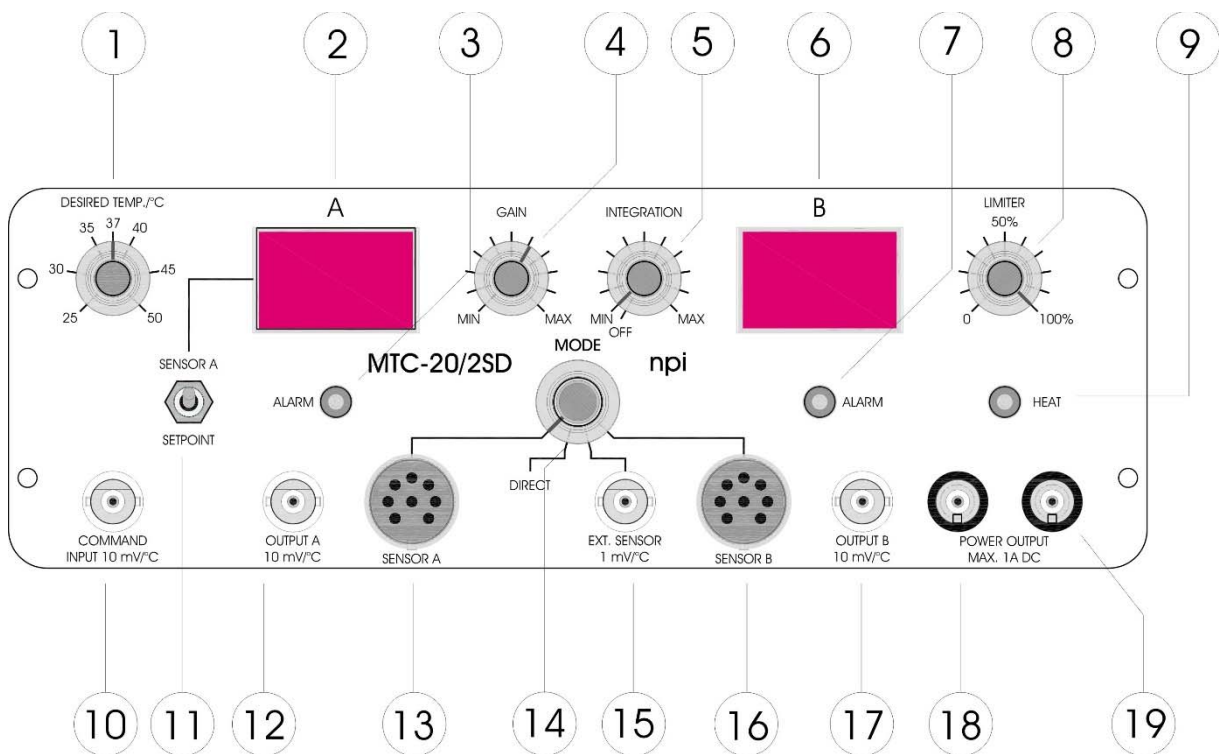

Figure 1: MTC-20/2SD front panel view
In the following description of the front panel elements each element has a number that is related to that in Figure 1. The number is followed by the name (in uppercase letters) written on the front panel and the type of the element (in lowercase letters). Then, a short description of the element is given.
DIRECT mode (no temperature control): the MODE switch (**14**, Figure 1) is set to the DIRECT position. The control unit is not active, i.e., the output voltage is preset directly at the LIMITER control (**8**, Figure 1). With the setting from 0% to 100% the output voltage increases linearly from 0 V to 12 V. The ALARM circuit (see below) is disabled in this mode.
- ❑ The SENSOR A or SENSOR B position selects one of the internal thermometers (SENSOR A or SENSOR B) which use a small semiconductor sensor. The measured temperature is shown at the respective digital display unit (2 or 6, Figure 1 respectively, XX.X °C).
- ❑ If no sensor is connected or if the sensor is damaged or short circuited the internal shut-off unit disconnects the power output. This state is indicated by the red ALARM LED (3 or 7, Figure 1 respectively) located just above the sensor connectors.
This mode can be used to connect an external thermometer. The calibration of the external input (SENS. INPUT BNC, (15, Figure 1)) is 1 mV / °C. If this option is used the internal ALARM circuit is disabled.
2. If the user wants to have external control (e.g., with a computer system) or to set the temperature to lower (<25°C) or higher (>50°C) values, the DESIRED TEMPERATURE can be set using the COMMAND INPUT 10mV / °C connector (10, Figure 1). The COMMAND INPUT is scaled 10mV / °C, i.e. +370 mV at this connector would set the DESIRED TEMPERATURE to +37°C.